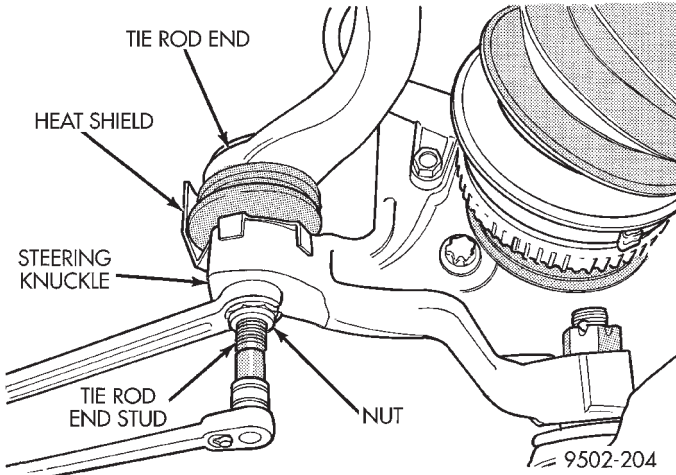
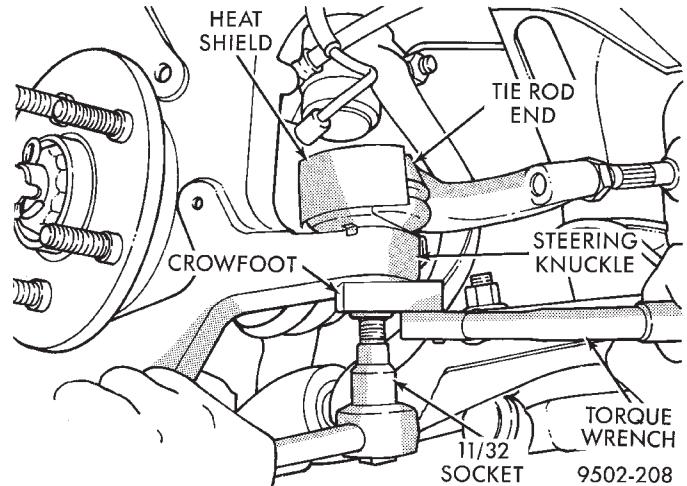

Fig. 32 Removing Tie Rod End Nut
Fig. 34 Torquing Tie Rod End Attaching Nut
(2) Remove nut attaching outer tie rod end to steering knuckle (Fig. 32). **Nut is to be removed from tie rod end using the following procedure, hold tie rod end stud with a 11/32 socket while loosening and removing nut with wrench.**
(1) Install outer tie rod onto inner tie rod. **Make sure jam nut is on inner tie rod.**
(2) Do not tighten jam nut.
(3) Install tie rod end seal boot heat shield (Fig. 32) on the tie rod end.
(4) Install tie rod end into the steering knuckle. Start tie rod end to steering knuckle attaching nut onto stud of tie rod end. While holding stud of tie rod end stationary, tighten tie rod end to steering knuckle attaching nut (Fig. 32). Then using a crow-foot and 11/32 socket, (Fig. 34) torque tie rod end attaching nut to 61 N·m (45 ft. lbs.).